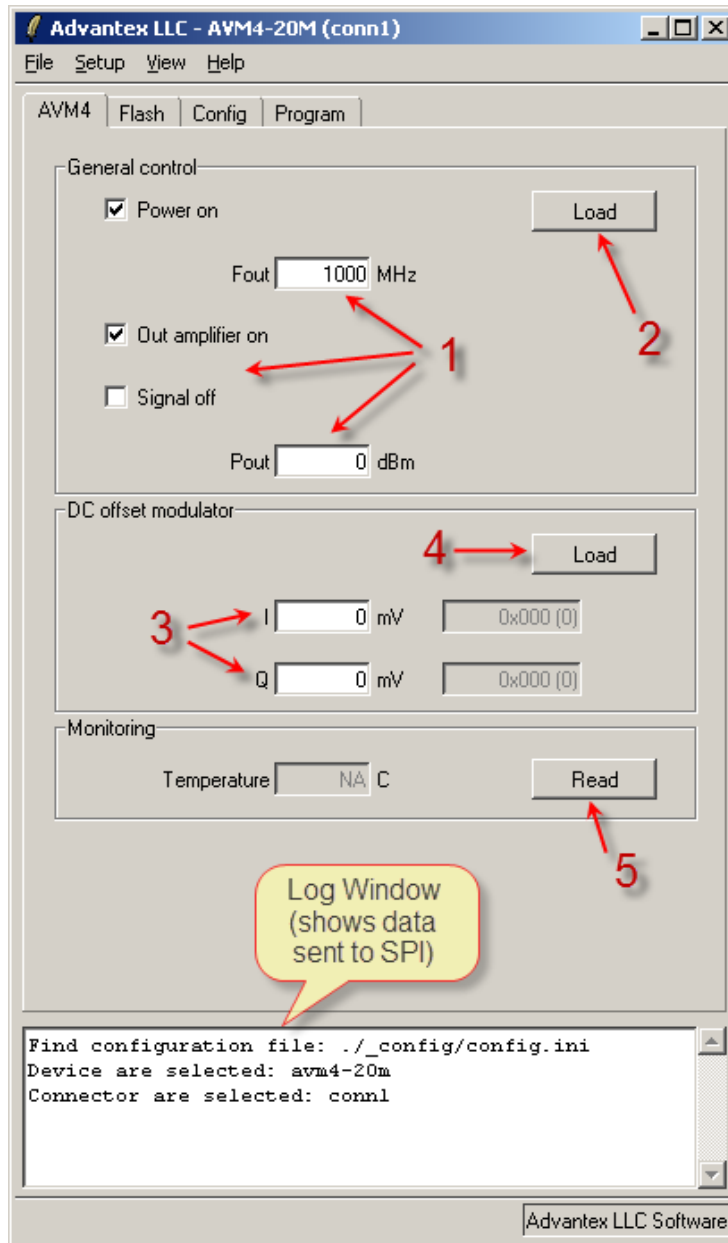

Figure 10: AVM4 tab
12. To start working with AVM-module set center frequency (according to the frequency of LO signal), set output level and check-boxes (fig. 10, Item 1) then press **Load** button (fig. 10, Item 2). To adjust I/Q DC offset (i.e. carrier suppression), set values (Item 3) and press **Load** (Item 4). You can read internal temperature of the block by pressing **Read** button (Item 5). After pressing **Load** (Item 2) button power consumption will increase up to 0.4A if “Power On” and “Out amplifier on” check-boxes are checked (i.e. internal power system is on, and output stage amplifier is on), and 0.1A if both unchecked (standby mode).